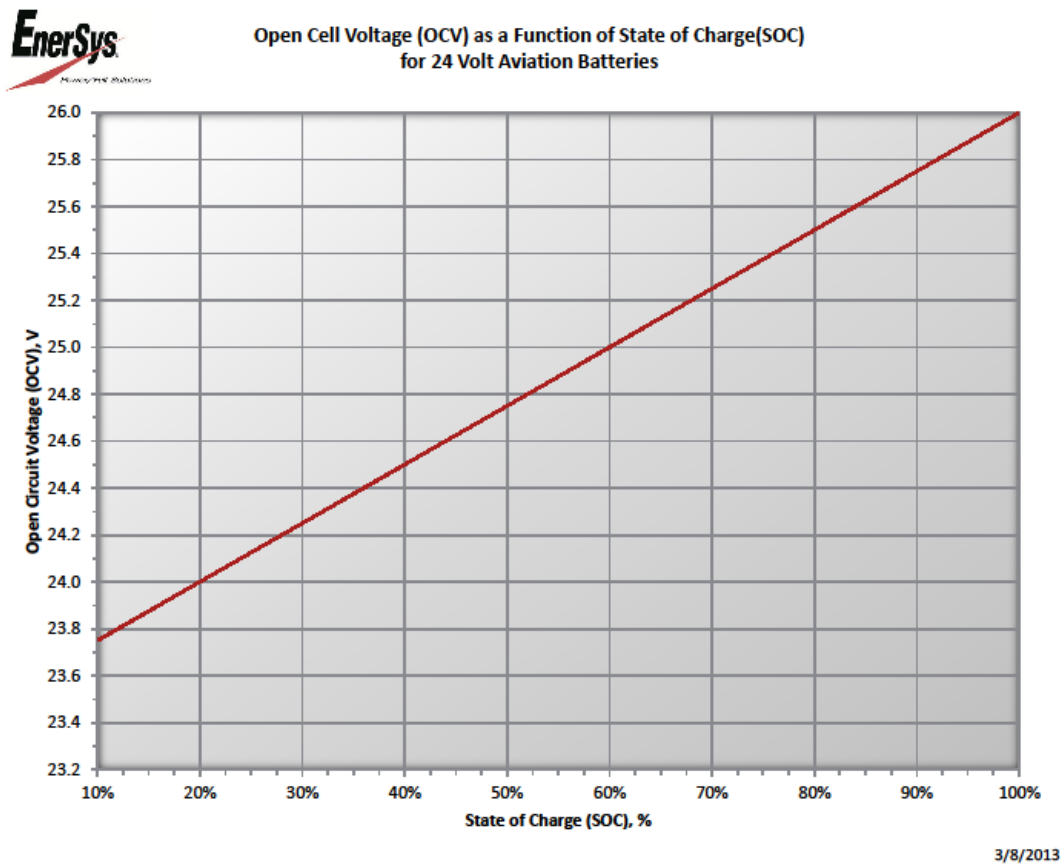

Figure 4 - Open Circuit Voltage as a function of State of Charge
2. Required Test Equipment (Ref. Fig. 4).
The open circuit voltage of the battery prior to service can be used as an approximate guide to the state of charge of the battery. Figure 4 shows the relationship between open-circuit voltage and the state of charge of a new battery after 24 hours or more after recharge.